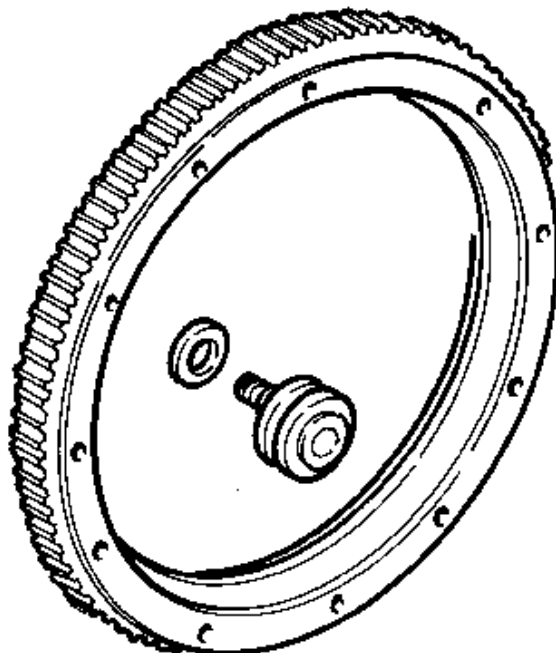

fig. 4.4
- Proceed by removing the disc, unscrewing the 12 M8 Allen screws which fix the toothed wheel (fig.4.4) to the raising carriage.